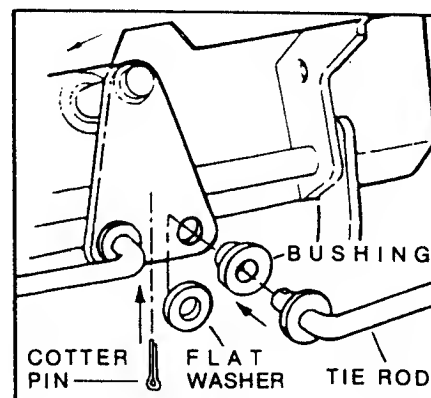
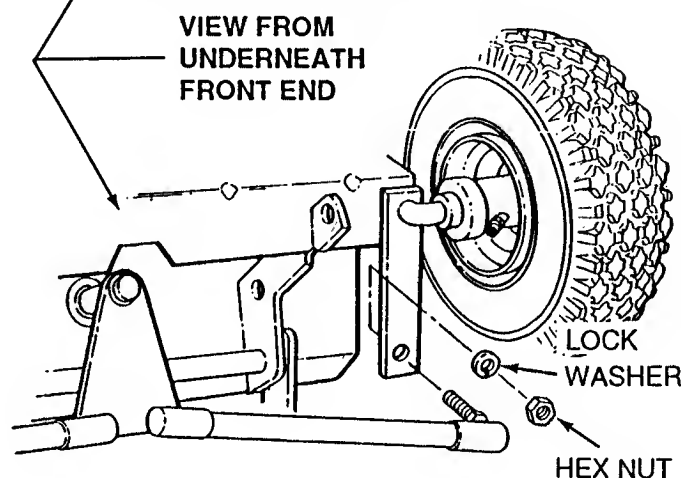

Figure 1 - CONNECTING TIE RODS NARROW FRONT FRAME
Figure 1A - CONNECTING TIE RODS WIDE FRONT FRAME
STEP 2: Units with narrow front frame install bushings and flat washers and then connect the tie rods to the steering arm as shown in Figure 1 using cotter pins. Units with wide front frame install tie rods into king pin arms and secure with lock washers and nuts as shown Figure 1A